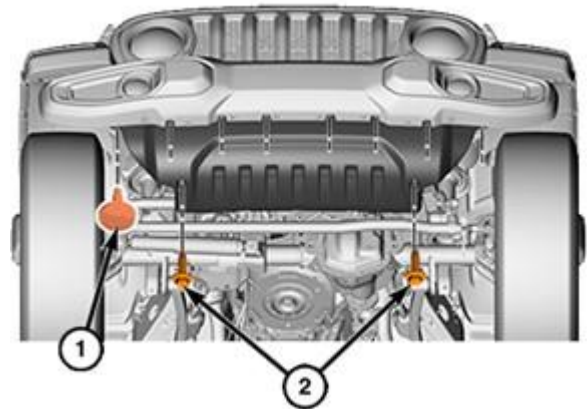

Figure 4 – Air Dam Fasteners
3. Remove the eight push pin fasteners from the front air dam (1) (Figure 4).
4. Remove the bolts (2) (Figure 4).